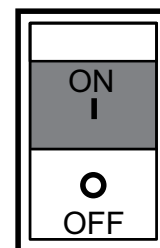

Figure 20. Main Circuit Breaker (ON)
9. Place main circuit breaker (Figure 20) in the **ON** position.